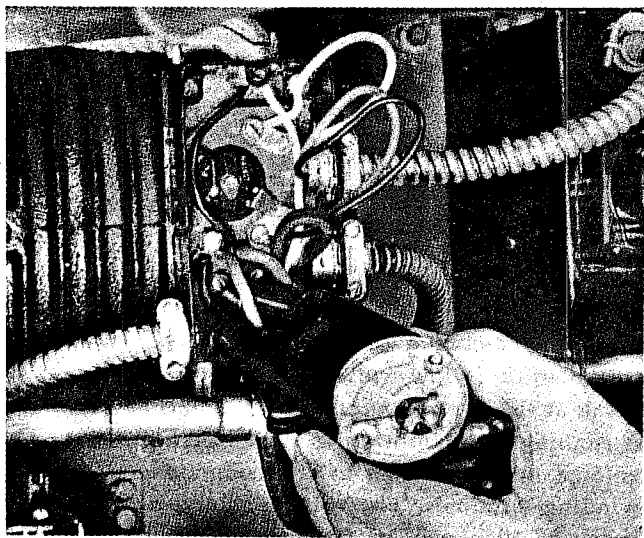

Figure 152
3. Check the amperage drawn while the compressor is operating. (See Figure 152.) Under normal operating conditions, the amperage drawn will seldom exceed 110% of the nameplate amperage and should never exceed 120% of the nameplate amperage. High amperage can be caused by low voltage, high